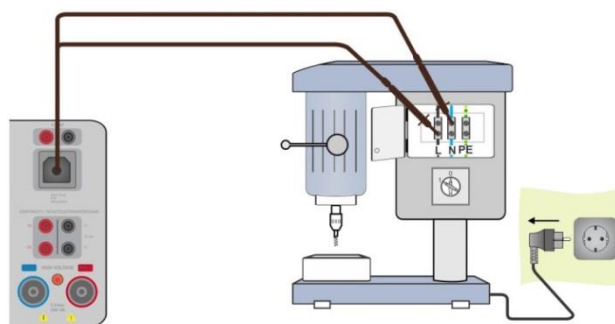

Figure 6.126: Discharging time measurement
- Connect Residual voltage cable to the instrument and to the device under test (DUT), see **Figure 6.126**.